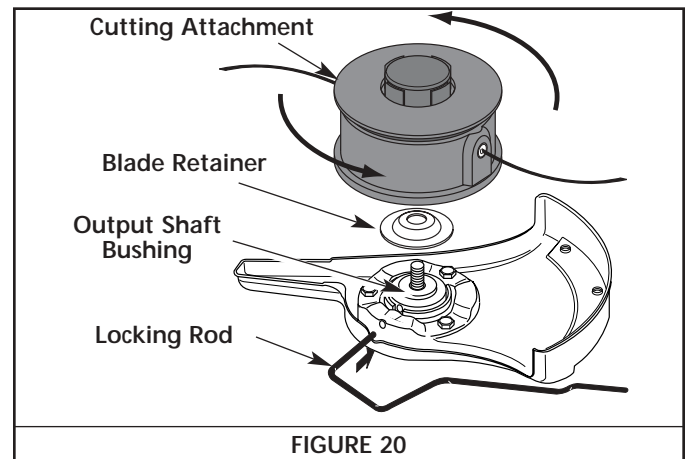

FIGURE 20
- Align the shaft bushing hole with the locking rod slot and insert the locking rod into the shaft bushing hole. See Figure 14. Place the blade retainer on the output shaft with the flat surface against the output shaft bushing as shown in Figure 20. Screw the cutting attachment counterclockwise onto the output shaft. Tighten securely.